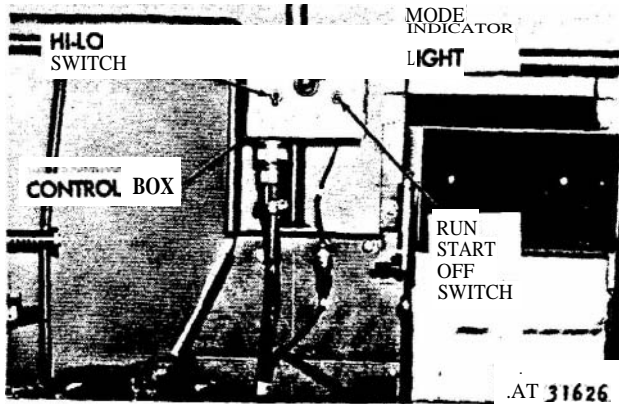

Figure 1-8. M792 ambulance, heater control box.
(1) A heater control box (fig 1-8) is provided for heat regulation. The box contains two toggle switches and an indicator lamp. The Hi-Lo switch is a double throw switch with two on positions and no center position. In LO position, the heater provides 14,000 BTU / hour and in HI position the heater provides 30,000 BTU / hour.
(2) The Run-Off-Start switch is a double-pole double throw switch with a closed and open position for RUN-OFF and a momentary **closed** position. Protection for the heater circuit is provided by an automatic reset type circuit breaker rated at 15 amperes.
(3) The indicator light is of the press-to-test type with a brilliance blackout control feature and an amber colored lens. Its purpose is to provide an indication of heater generation during the heater